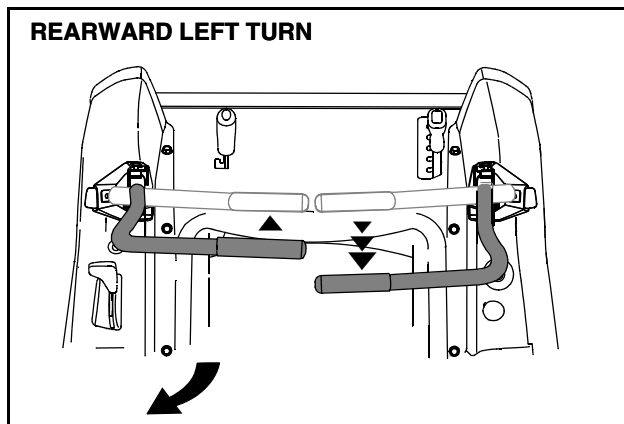

Figure 16
- To turn to the left while traveling in reverse, move the left drive control lever forward of the right lever. See Figure 16.